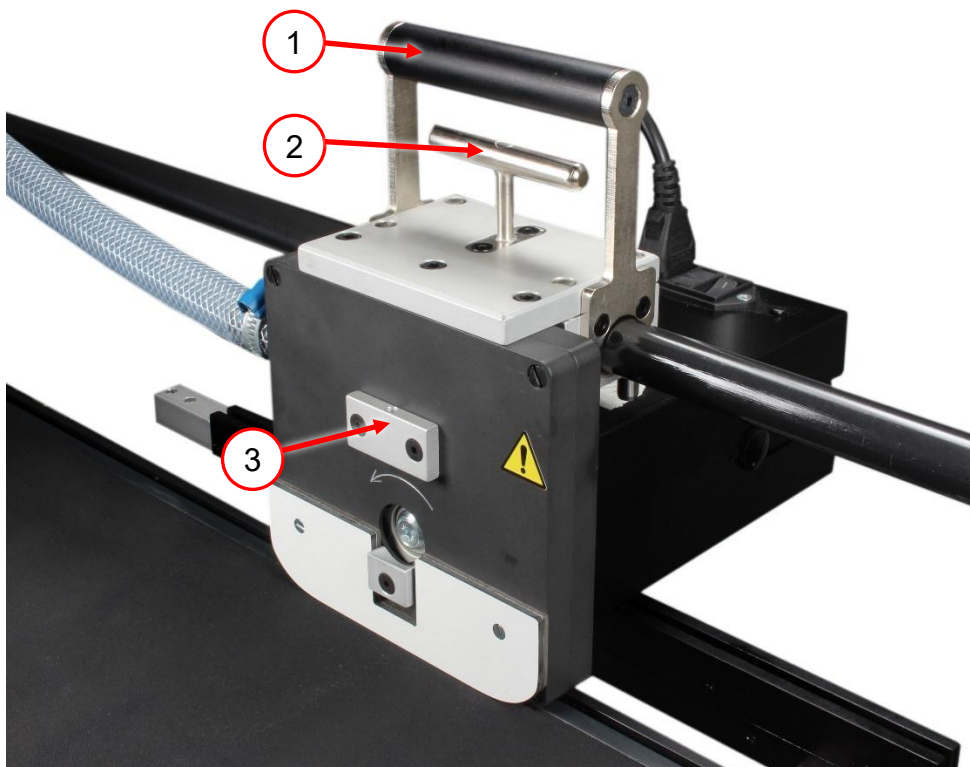

Figure 27 Fitting the VARGA VA 11 lifting handle and handle
12. Fit the lifting handle (2, Figure 27) with the countersunk screws supplied (M4x10).
13. Fit the handle (1, Figure 27) with the countersunk screws supplied (M4x10).
14. If required, attach the lubrication device to the holder (5, Figure 27).